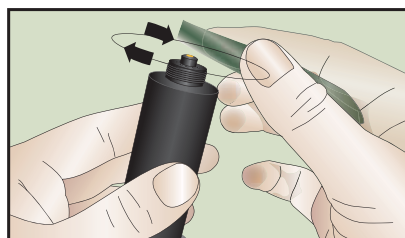

Figure 1
5. Polish the gold electrode by moving the paper in a circular pattern for 30 seconds. **DO NOT** go back and forth in a single direction. **See Figure 1.**
7. Apply a small amount of DI water to the White (Fine) polishing paper (dull side) and polish the gold electrode by moving the paper in a circular pattern for 30 seconds. **DO NOT** go back and forth in a single direction. **See figure 1.**